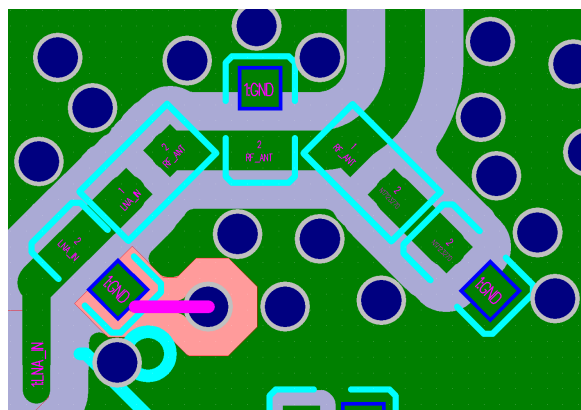

Figure 23: ESP32-S3 Stub in a Four-layer PCB Design
- Please add a stub to ground at the ground pad of the first matching capacitor to suppress second harmonics. It is preferable to keep the stub length 15 mil, and determine the stub width according to the PCB stack-up, so that the characteristic impedance of the stub is 100 $\Omega \pm 10\%$. In addition, please connect the stub via to the third layer, and maintain a keep-out area on the first and second layers. The trace highlighted in Figure 23 is the stub. Note that a stub is not required for package types above 0201.